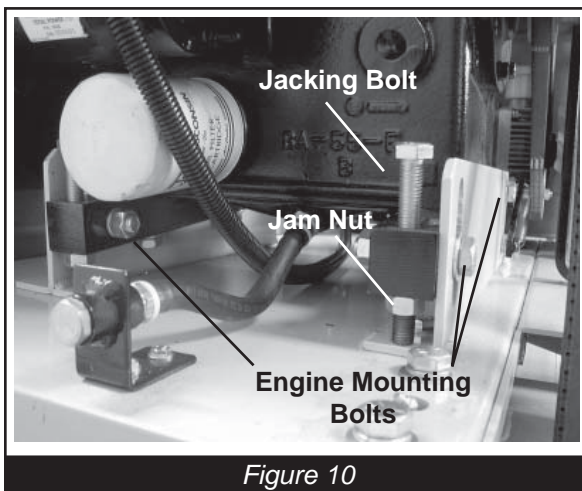

Figure 10
- Loosen engine mounting bolts and jam nut, then turn jacking bolt to lift or lower engine mount. Lift engine to tighten belts lower engine to loosen/replace belts. (Figure 10)
- The model SS26-31D and SS36-57D are heavy duty saws designed to use large diameter blades for deep cutting. SS26-31D - blade size 14 inch to maximum diameter of 26 inches (66cm). SS36-57D - blade size 14 inch to maximum diameter of 36 inches (92cm). (Figures 10 thru 15)
- Remove belt guard and arbor guard. Loosen engine mounting bolts and jam nuts, turn jacking bolts to lower engine (Figure 10 thru 15) to a point where the belts can be removed. Remove jackshaft belt on SS36-61D first to gain access to arbor shaft belts.